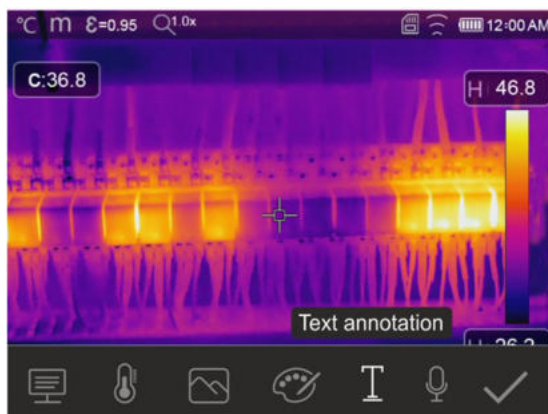

Fig. 48: Adding a text annotation to the image
4. Touch the icon “📄” to add a text annotation to the image. The screen in Fig. 48 – right side appears on the display.